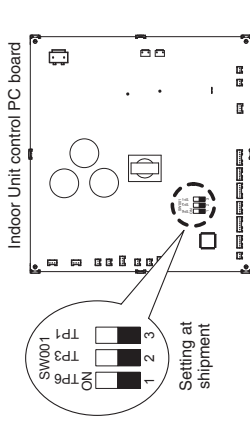

Fig. 10-1
2. Open the lid of the electrical component box and confirm the location where the Select switch on the indoor unit control PCB is placed. (Fig. 10-1)